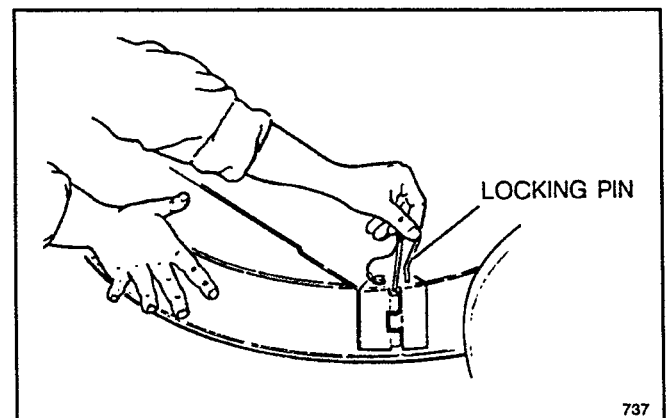

Figure 13
4. Slide chute assembly under deflector. Hook rear chute bracket around pivot post on deck. Slide front of chute into locking position with mating part of hinge lock. Insert locking pin (Fig. 13).